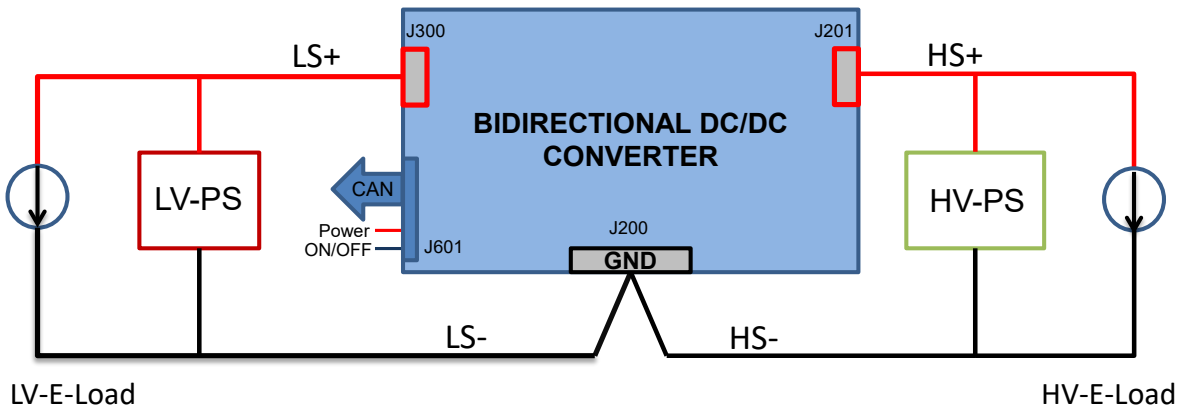

Figure 2: Bench Setup
Figure 2 illustrates the bench setup used to operate 48S24.3K0BCA and take measurements provided in datasheet. The combination of the Electronic Load (E-Load) and Bench Power Supply (PS) emulates a battery capable of both sourcing and sinking current.